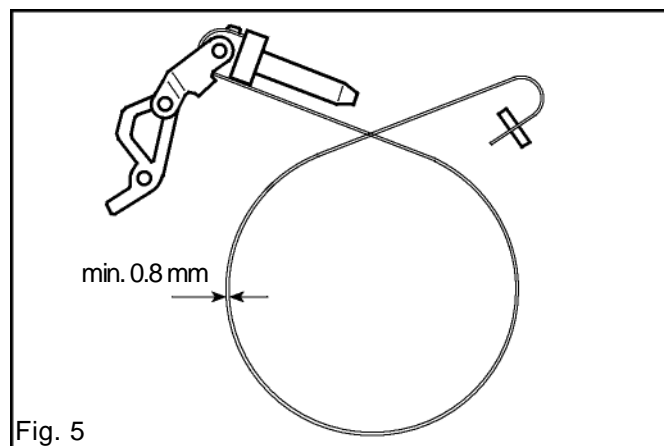

Fig. 5
The brake-strap thickness must not be less than 0.8 mm at any point. See fig. 5.
1. Reattach the toggle joint and brake-strap. See fig. 5.